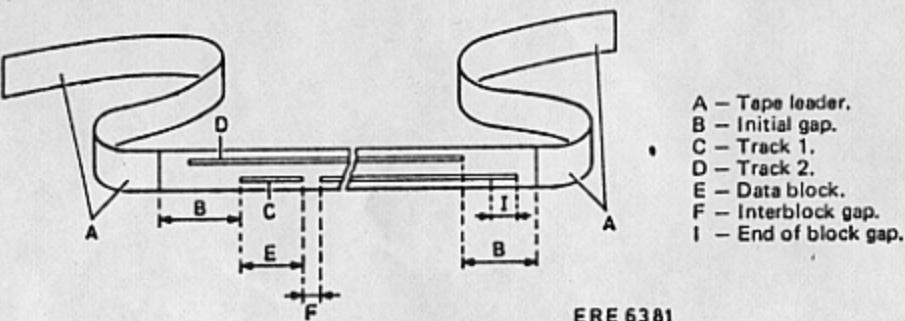

Fig. 2. Mini-DCR – Physical Composition of Tape.
- Fig. 2. Mini-DCR — Physical Composition of Tape
Figure 2 shows the physical composition of the tape.